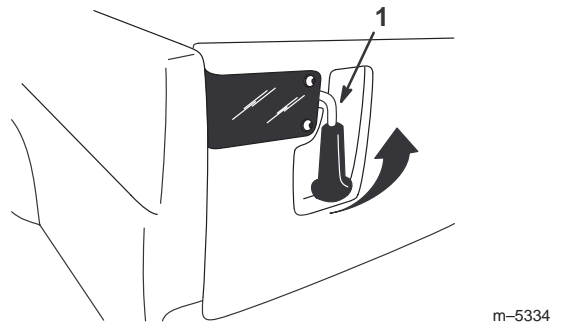

Figure 13
1. To open the tailgate latches, lift the latch handles up (Fig. 13). The latches will spring out toward the center of the tailgate. Slowly lower the tailgate.